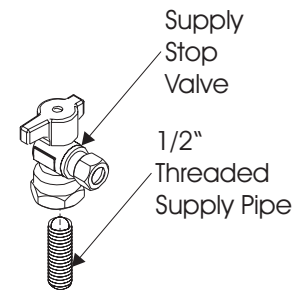

Figure 1.
- 5** Place the Trim Cover around the 24" Light Post and install the Light Delivery assembly fully into the mount of the Utility Center next to the Engle 300 Control Delivery assembly, as shown on [Figure 1.]. Adjust the "four" Light Post adjustment Set Screw see [Figure 2.], making sure that the 24" Light Post is vertically plumb. **CAUTION: DO NOT OVER TIGHTEN SET SCREWS.**
- A 1/2" threaded water supply pipe and a 1/2" threaded air supply pipe must be 1" tall maximum, above the finished floor. Using the proper thread sealant, install the "two" included Supply Stop Valves to the 1/2" threaded pipes, one each pipe. Once set, use these valves to purge the water and air supply pipes to remove any supply line debris. (See Figure 1.)